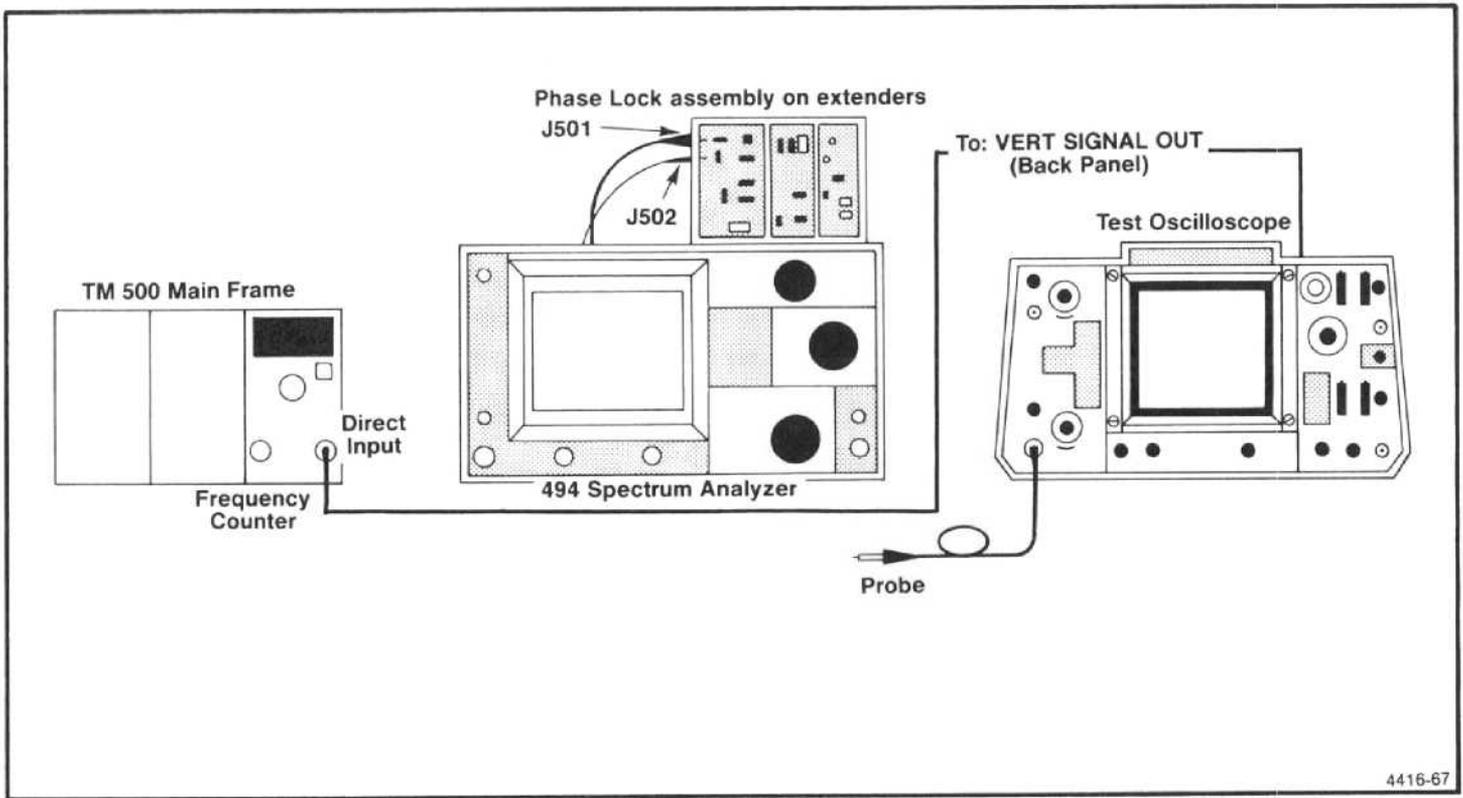

Figure 5-33. Test equipment setup for calibrating the Phase Lock assembly.
a. Test equipment setup is shown in Figure 5-33. Remove the Phase Lock module and the two cover plates so all circuit test points and adjustments are accessible. Plug the assembly on extender boards and into the instrument. Use extender cables and adapters to reconnect signal cables to their respective connector (cable with yellow band to J501, and the cable with black band to J502).